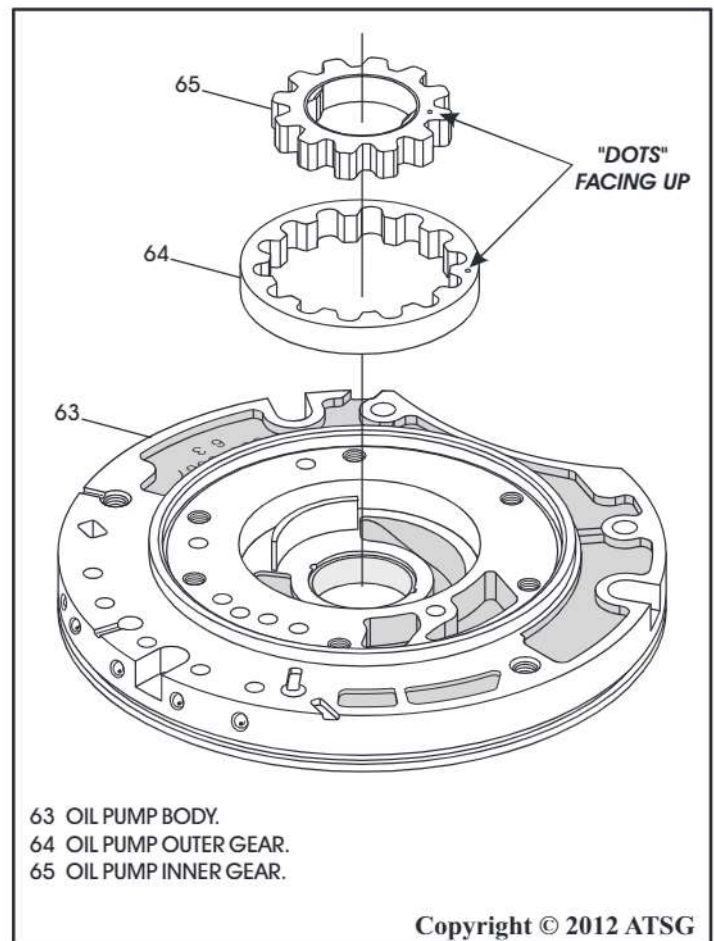

Figure 201
6. Install the inner and outer oil pump gears into pump pocket, with the dots facing up, as shown in Figure 201.